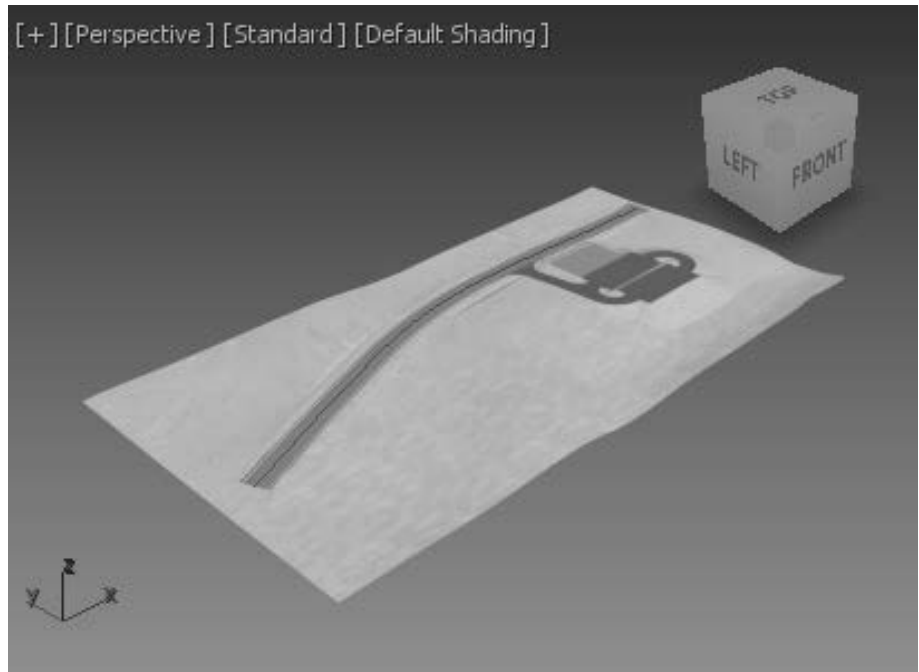

Figure 3–14
13. Click  (Zoom Extents All). In the **Perspective** view, the scene displays as shown in Figure 3–14.